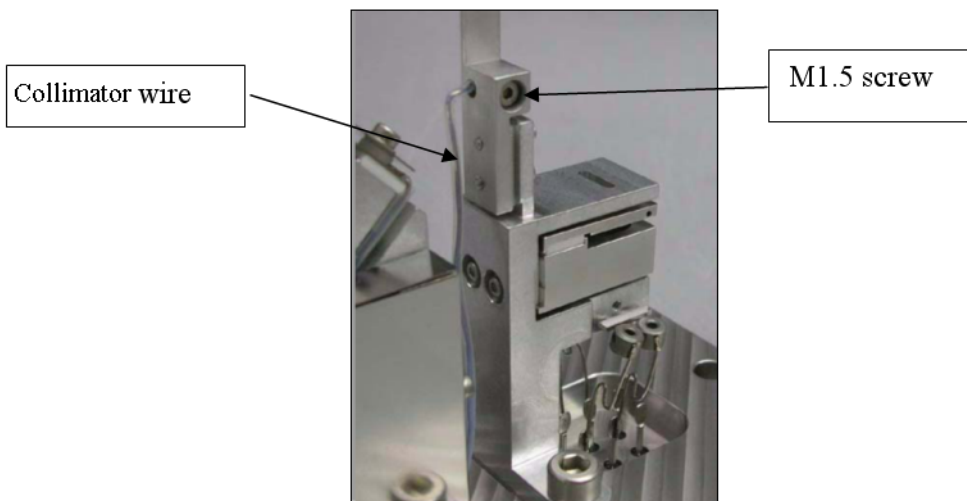

Figure 12: Partial Pressure Plate
17. Connect the collimator wire to the collimator plate using an M1.5 screw (Figure 12: Partial Pressure Plate).